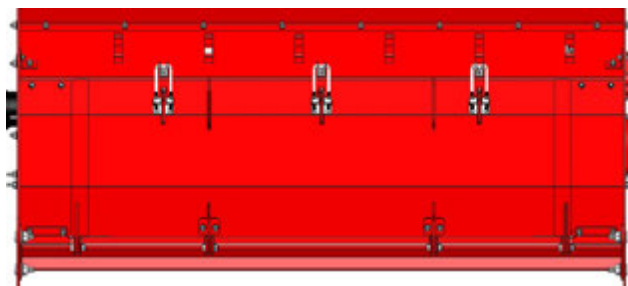

Figure 38: Close the flail drum door
3. Close the flail drum door and secure the clamp latches; see Figure 38.